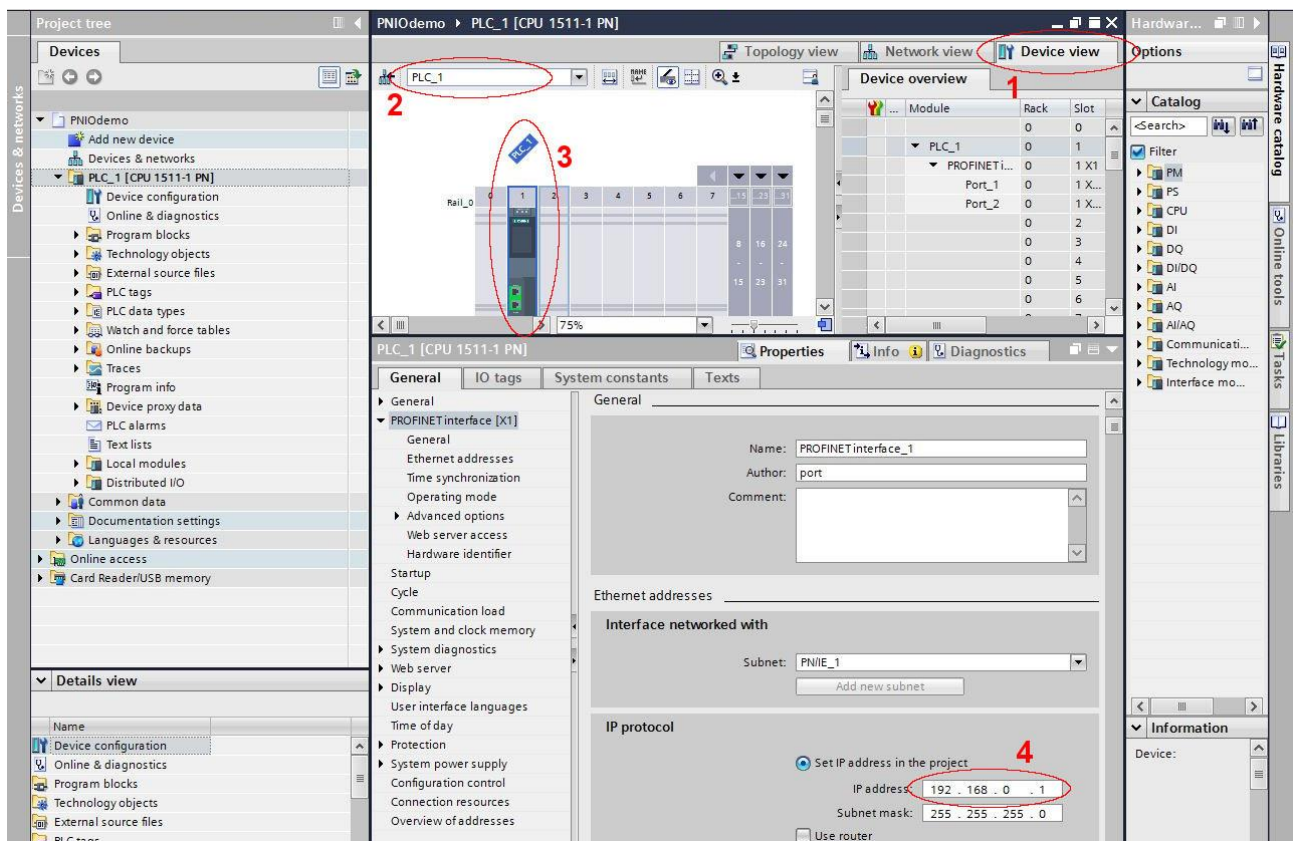

Figure 4-5: Check the IP address
8. Check the IP address of the PLC (Figure 4-5):